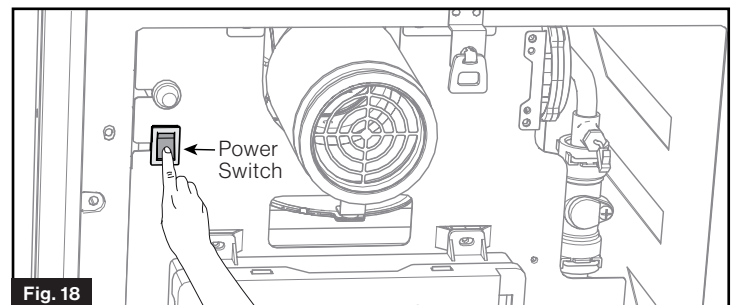

Fig. 18
1. Set the power switch (Fig. 18) in front of the water heater to the "OFF" position.
1. Verify the power switch on the water heater is in the "OFF" position. (Fig. 18)
1. Verify the power switch is in the “OFF” position. (Fig. 18)
4. Turn the power switch to the “ON” position (Fig. 18) and verify the wall controller is illuminated. If the wall controller is not illuminated, press  button on the wall controller to illuminate. (Fig. 29) The wall controller display will show the Hot Water temperature setting.